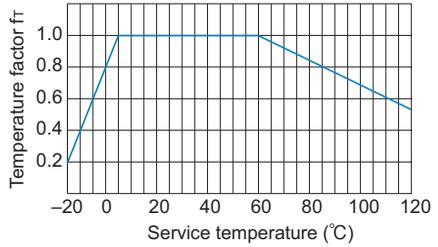

Fig.2 Temperature Factor
If the temperature of the change nut exceeds the normal temperature range, the seizure resistance of the nut and the strength of the material will decrease. Therefore, it is necessary to multiply the dynamic permissible torque (T) and the dynamic permissible thrust (F) by the corresponding temperature factor indicated in Fig.2.
- fr : Temperature factor (see Fig.2)
- F : Dynamic permissible thrust (N)
- PF : Axial load (N)